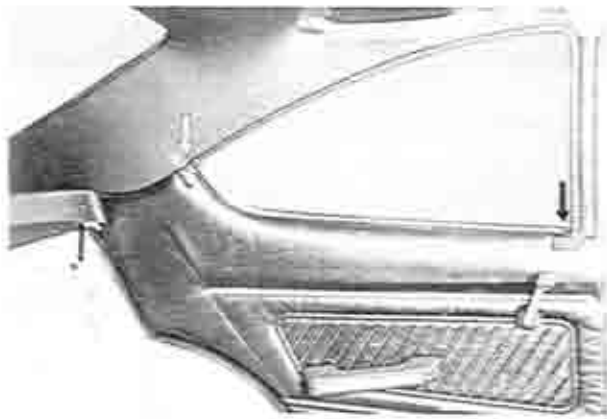

Fig. 14-30 Removing of seaming welt cover
3. Remove the package tray trim upper as shown in Fig. 14-30.